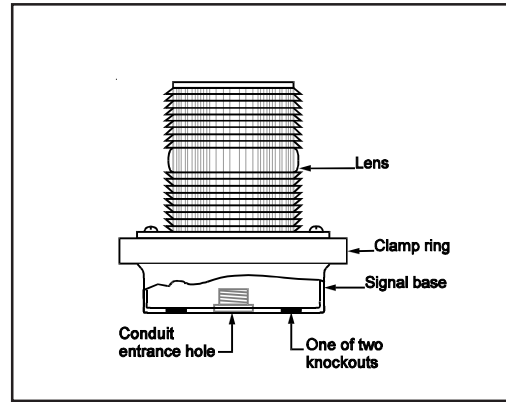

Figure 2. Catalog Series 50 and 50SIN Flashing Lights
**50 and 50SIN Series:** See Figure 2. Remove the screw in the clamp ring, remove the ring, lift the lens/lamp assembly off of the base, and pull the wire leads out of the conduit entrance hole in the base. Proceed to step 2 for installation of the base.
**50 and 50SIN Series:** See Figure 2. Remove the three screws from the top of the trim ring and lift off the lens and ring. Replace the lamp.